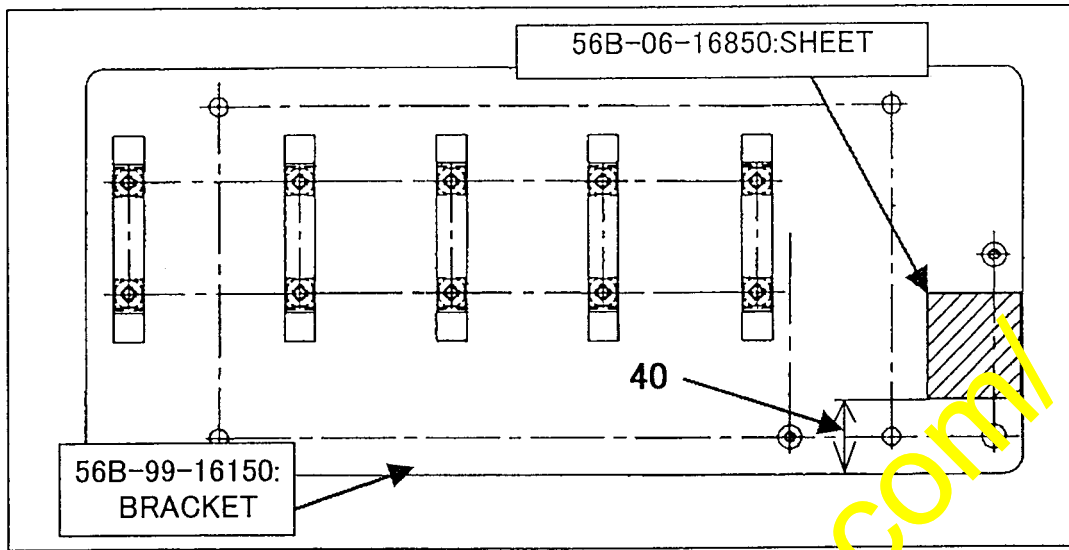

Fig. 30
- (1) Paste the cushion sheet (56B-06-16850) for the improved relay (56B-06-16840) to the new relay mounting plate (56B-99-16150). (Refer to Fig. 30.)